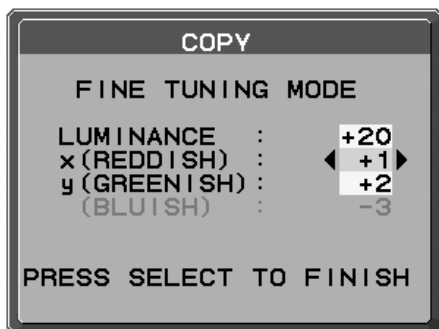

Figure C.6
10. At the FINE TUNING MODE message (**Figure C.6**), press SELECT if the copy result is satisfactory. If the copy result is unsatisfactory, manually fine tune the white point using the “LEFT” and “RIGHT” keys, and press SELECT.